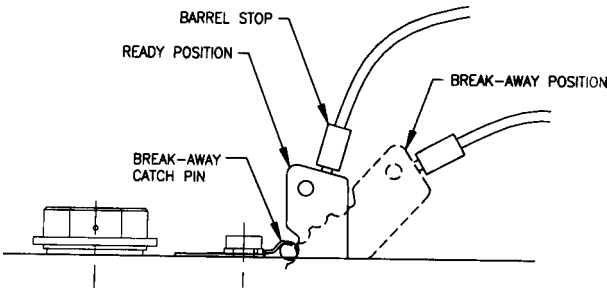

Figure R12: Break-away Cable
8. Make sure the break-away lever is fully rotated to the rear with the break-away catch pin securely located under the break-away spring. The break-away catch pin will be in the lever's uppermost notch. See Figure R12.